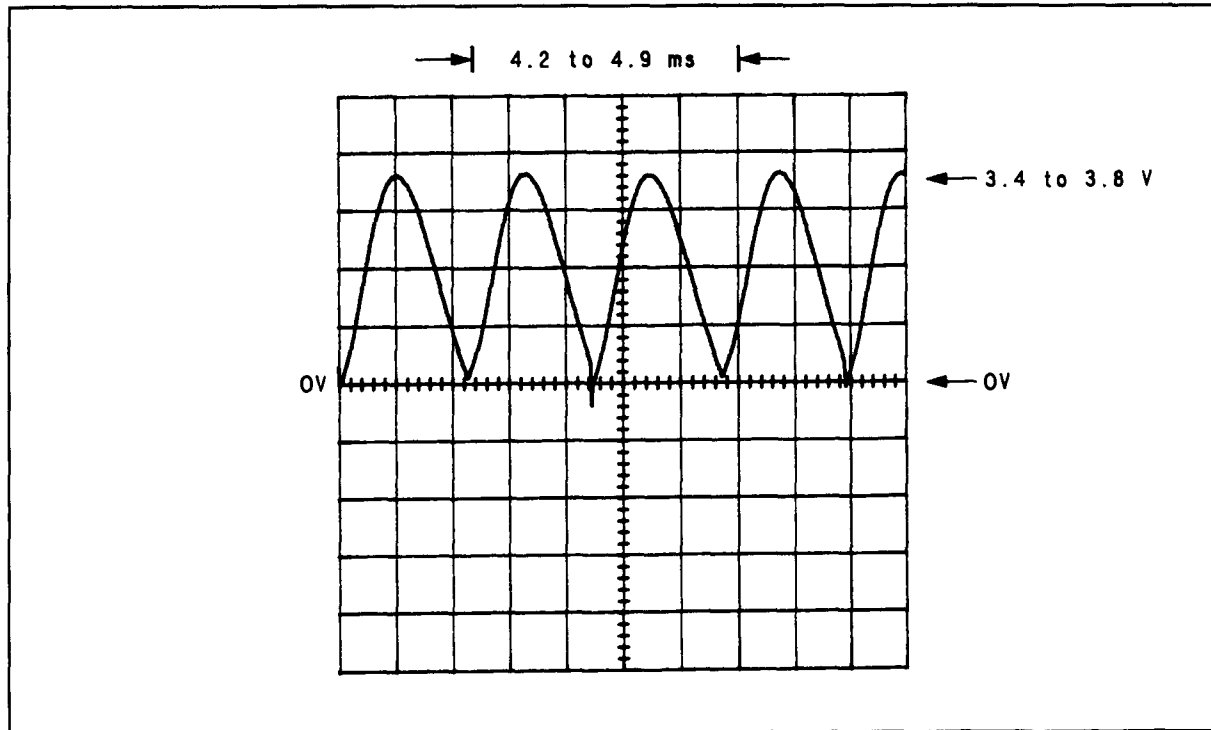

Figure 8F-6. Waveform for √3 Step 3
3. DC couple the oscilloscope and connect it to A53TP2 (Φ DET). The waveform should appear as shown in Figure 8F-6.